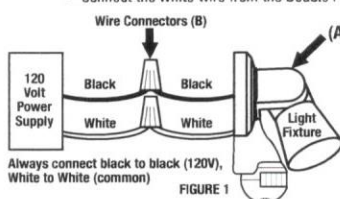
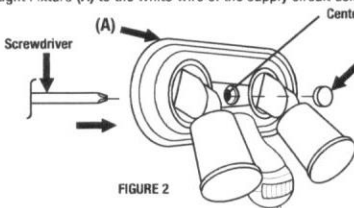

FIGURE 1
FIGURE 2
- Remove Rubber Cap (F) from fixture housing by pushing screwdriver through center hole and gently popping it out per Figure 2.
- Install Mounting Bracket (C) onto the junction box using the two Mounting Bracket Screws (D). Pull the supply wires from the house over the Mounting Bracket (C).
- **WIRING** - See Figure 1
- Connect the Black wire from the Double Flood Light Fixture (A) to the Black wire of the supply circuit using Wire Connectors (B).
- Connect the White wire from the Double Flood Light Fixture (A) to the White wire of the supply circuit using Wire Connectors (B).